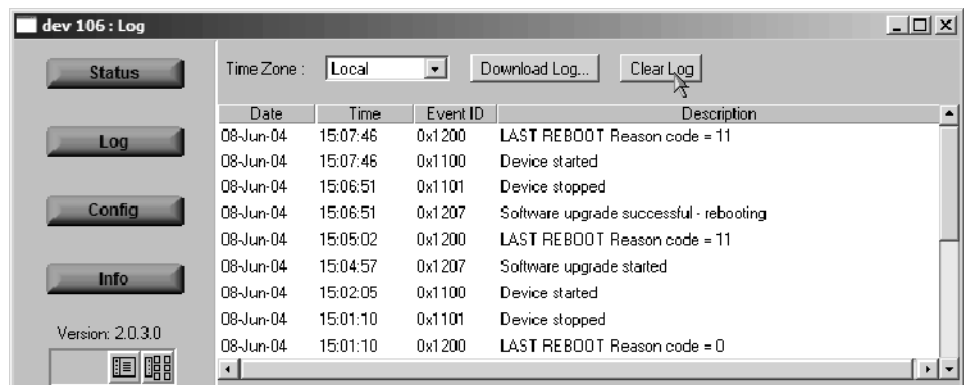

Figure 5: Device view - Log
2. Select Clear Log to clear the device log (see Figure 5). A message is displayed in the Device Log view confirming that the log has been cleared.